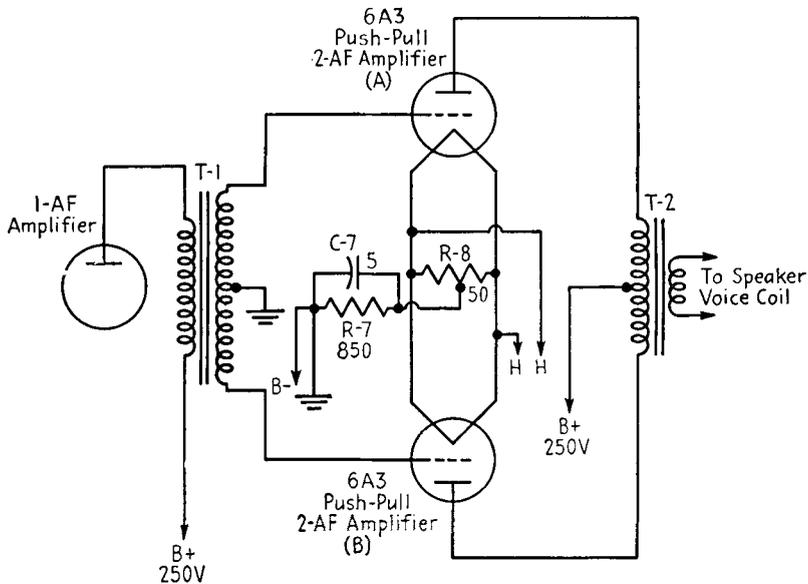

FIG. 22-17. Schematic diagram of a typical transformer-coupled push-pull amplifier.
**The transformer-coupled push-pull stage.** In some receivers, the first AF stage is transformer-coupled to the push-pull output stage. No phase inverter tube is required, since phase inversion and equal-magnitude voltages are obtained by means of the input transformer whose secondary is center-tapped to ground. Figure 22-17 shows a typical circuit of this type.